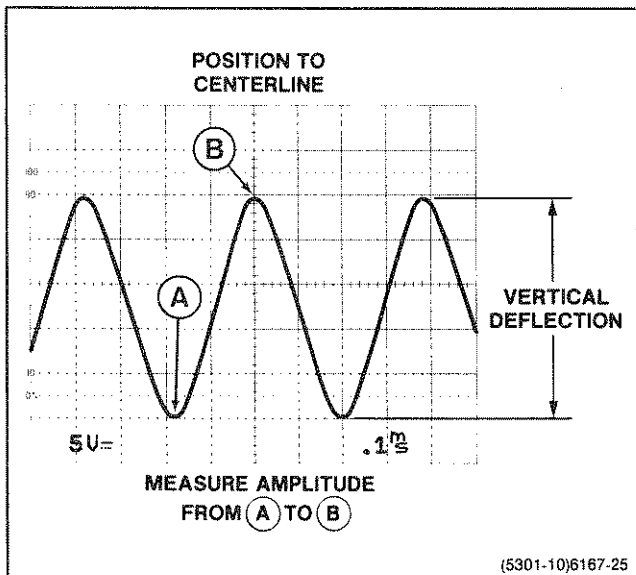

Figure 6-1. Peak-to-peak waveform voltage.
6. Vertically position the display so that the negative peak of the waveform coincides with one of the horizontal graticule lines (see Figure 6-1, Point A).
7. Horizontally position the display so that one of the positive peaks coincides with the center vertical graticule line (see Figure 6-1, Point B).
8. Measure the vertical deflection from peak to peak (see Figure 6-1 Point A to Point B).
**EXAMPLE:** The measured peak-to-peak vertical deflection is 4.9 divisions (see Figure 6-1) with a VOLTS/DIV switch setting of 5 V.